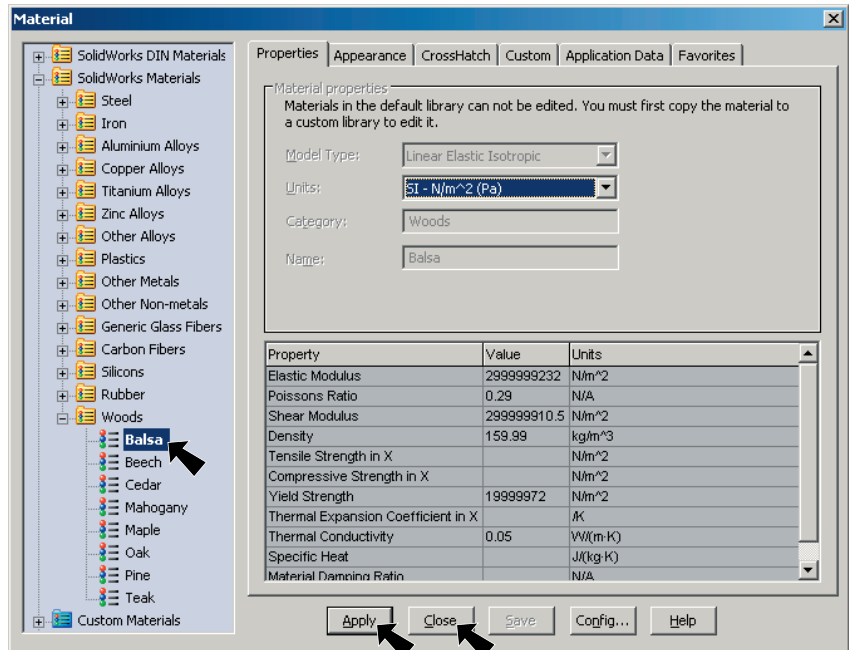
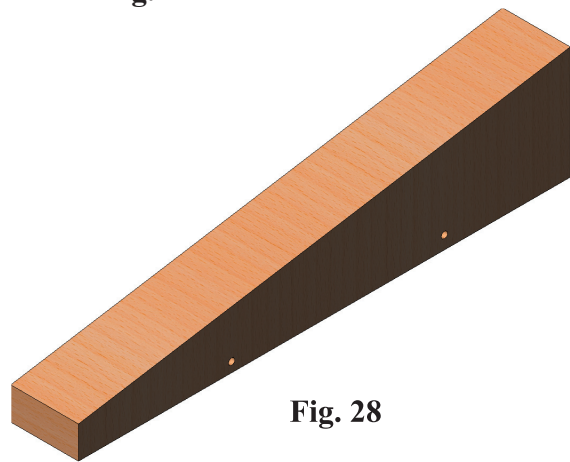

Fig. 27
Fig. 28
Step 2. Expand **Woods** (click the +) in the material tree and select **Balsa**, Fig. 27. Click **Apply** and **Close**, Fig. 28.